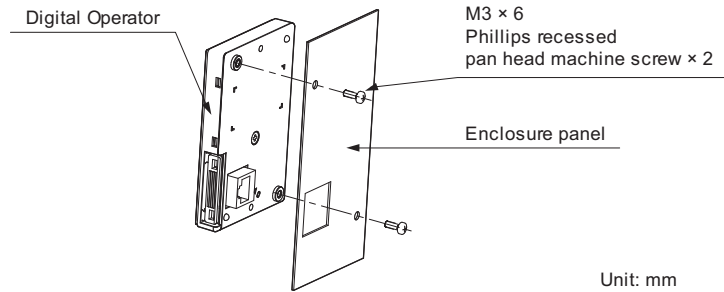

Figure 2.11 External/Face-Mount Installation
2. Position the digital operator so the display faces outwards, and mount it to the enclosure panel as shown in *Figure 2.11*.